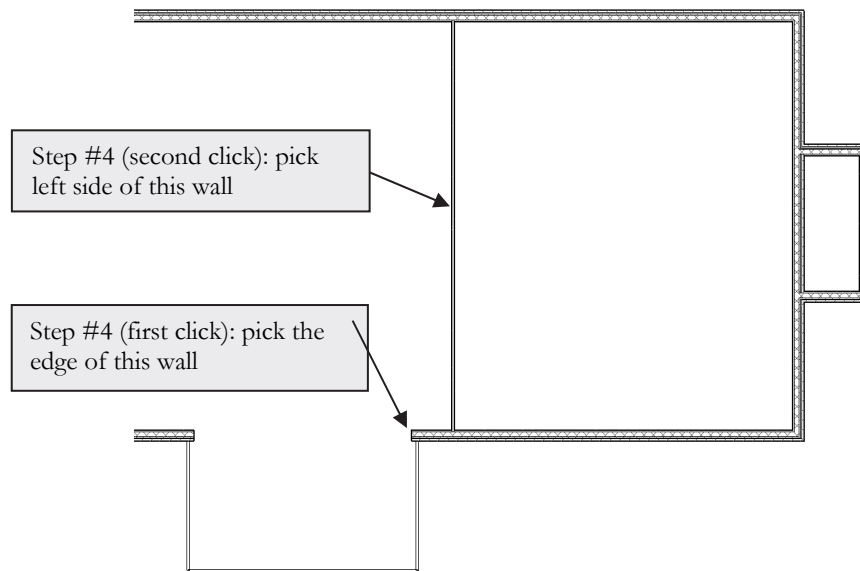
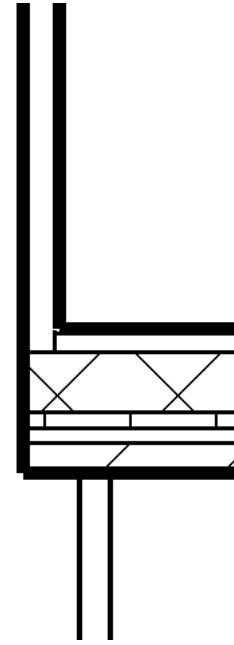

FIGURE 3-3.1 First interior wall
FIGURE 3-3.2
3. Draw a “vertical” wall approximately as shown in Figure 3-3.1. You will adjust its exact position in step #4.
4. Select **Modify** → **Modify** → **Align** tool to align it with the edge of the exterior wall in the atrium (Figure 3-3.1). When you are done, the wall should look like Figure 3-3.2.